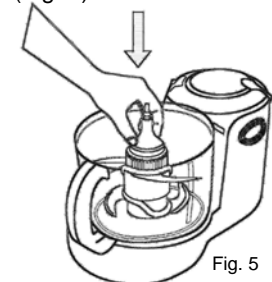

Fig. 5
- Then insert onto the shaft of the processor bowl. Always hold the chopping blade by the upper plastic part. (Fig. 5)